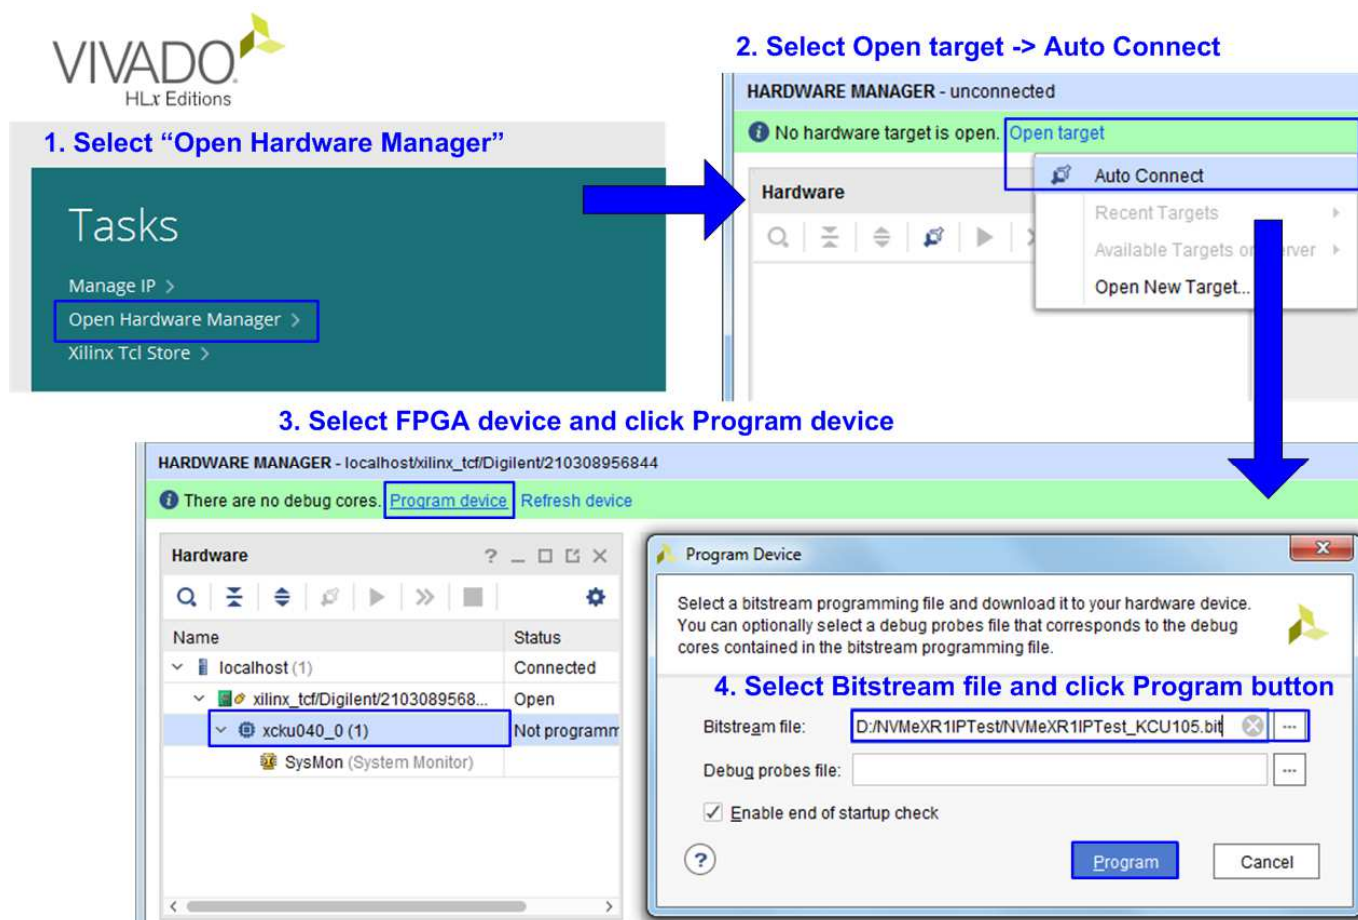

Figure 2-6 Programmed by Vivado
- 8) Download bit file to configure FPGA and firmware. Use Vivado tool to program bit file, as shown in Figure 2-6.